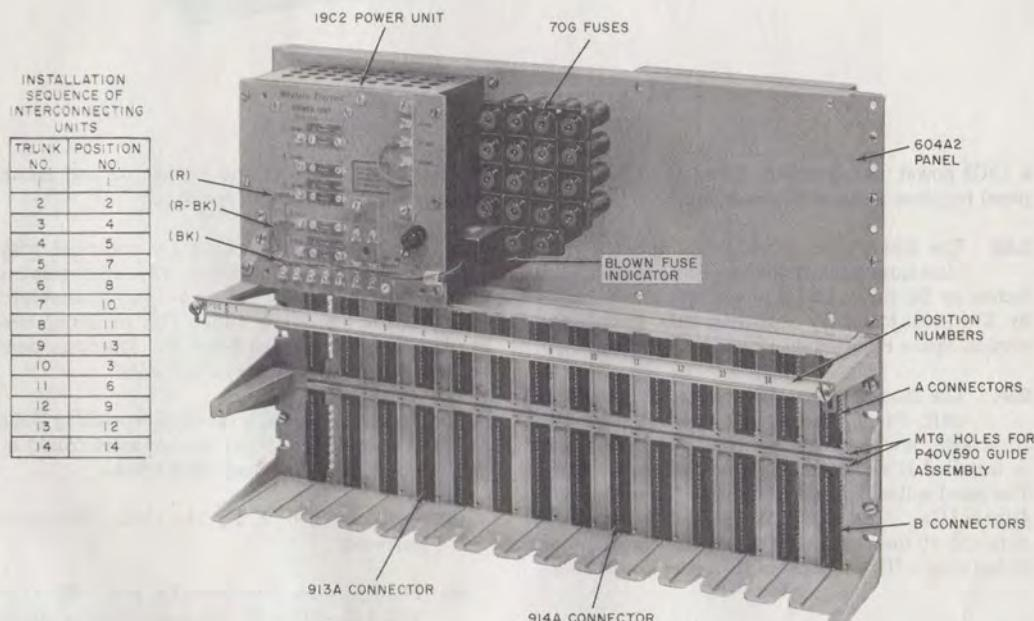

Fig. 1—604A2 Panel (Front View)
a 19C2 power unit (see Fig. 1 and 2). The 604A1 panel requires a separate power supply.
**4.01** Refer to Fig. 1, 2, and 5 for connections to 19C2 power unit or external power supply.